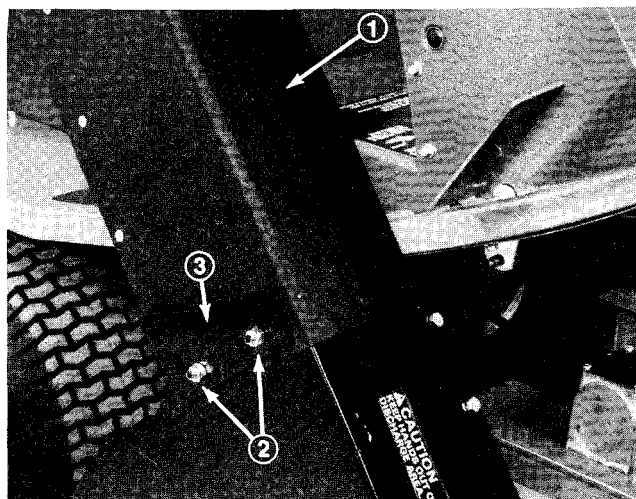

Figure 19
2. Slide chute over blower opening and onto mounting studs (Fig. 19).
3. Lower hopper hood and align chute with hood snout. Secure chute in position with locknuts and brackets. Wide end of brackets to be positioned toward rear (Fig. 19).